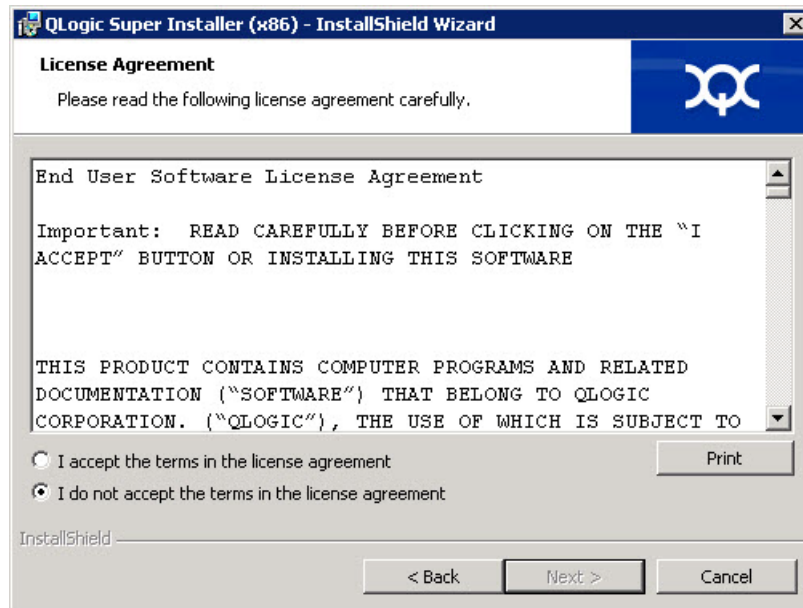

Figure 3-3. QLogic InstallShield Wizard: License Agreement Window
4. Complete the following in the wizard's License Agreement window (Figure 3-3):